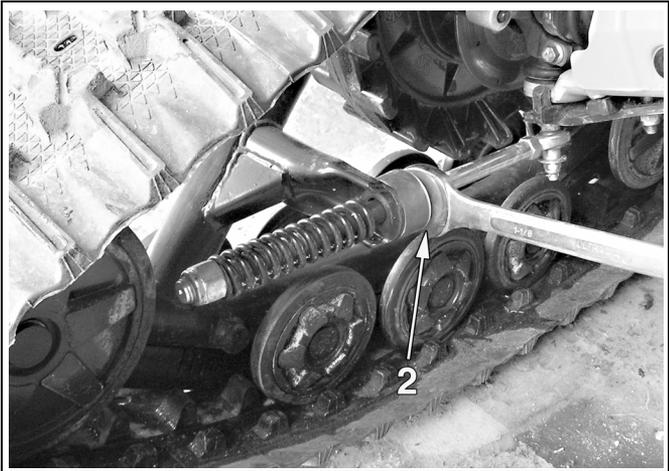

Figure 5
- Set the nut (2) shown on Figure 5 until the flat bar reaches  $254 \pm 6$  mm above the ground.